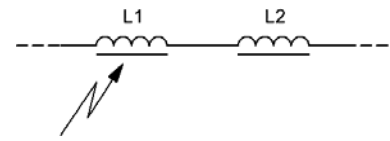

Bild 14.5.2.3: Break in the core
- Assume that at coil L_1 in the circuit of Fig. 14.5.2.3, due to a manufacturing fault, a break occurred in the core in the coil. This has had an effect on the build-up and decay of the magnetic field. In such a case, how do the values change of the variables given below? Indicate the tendency in the form of up and down arrows.
Check your assumptions for I_L and U_{L_n} by measurement in the circuit shown in Fig. 14.5.2.1. Simulate the break in the core by removing half of the core in L_3 .